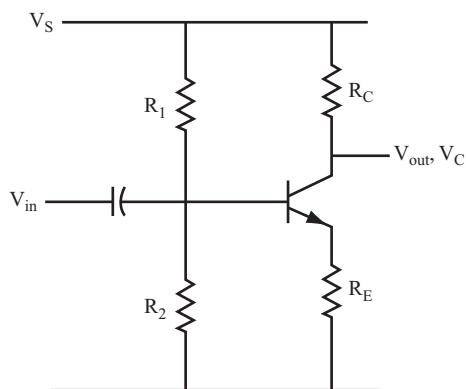

FIGURE 12.11
49. Using the amplifier circuit shown in Figure 12.11, find the values of  $R_1$ ,  $R_2$ , and  $R_E$  that can provide the amplifier with a voltage gain of 10. Use  $V_s = 28 \text{ volts}$ ,  $R_C = 1 \text{ k}\Omega$ , and  $\beta = 100$ . \_\_\_\_\_
50. Again, using the circuit shown in Figure 12.11, find the values of  $R_1$ ,  $R_2$ , and  $R_E$  that can provide the amplifier a voltage gain of 20. Use  $V_s = 10 \text{ volts}$ ,  $R_C = 2.2 \text{ k}\Omega$ , and  $\beta = 50$ . \_\_\_\_\_
51. Using the circuit shown in Figure 12.11, how would you modify the amplifier in question 50 to obtain a maximum gain? Assume that the lowest frequency it has to pass is 50 Hz. \_\_\_\_\_